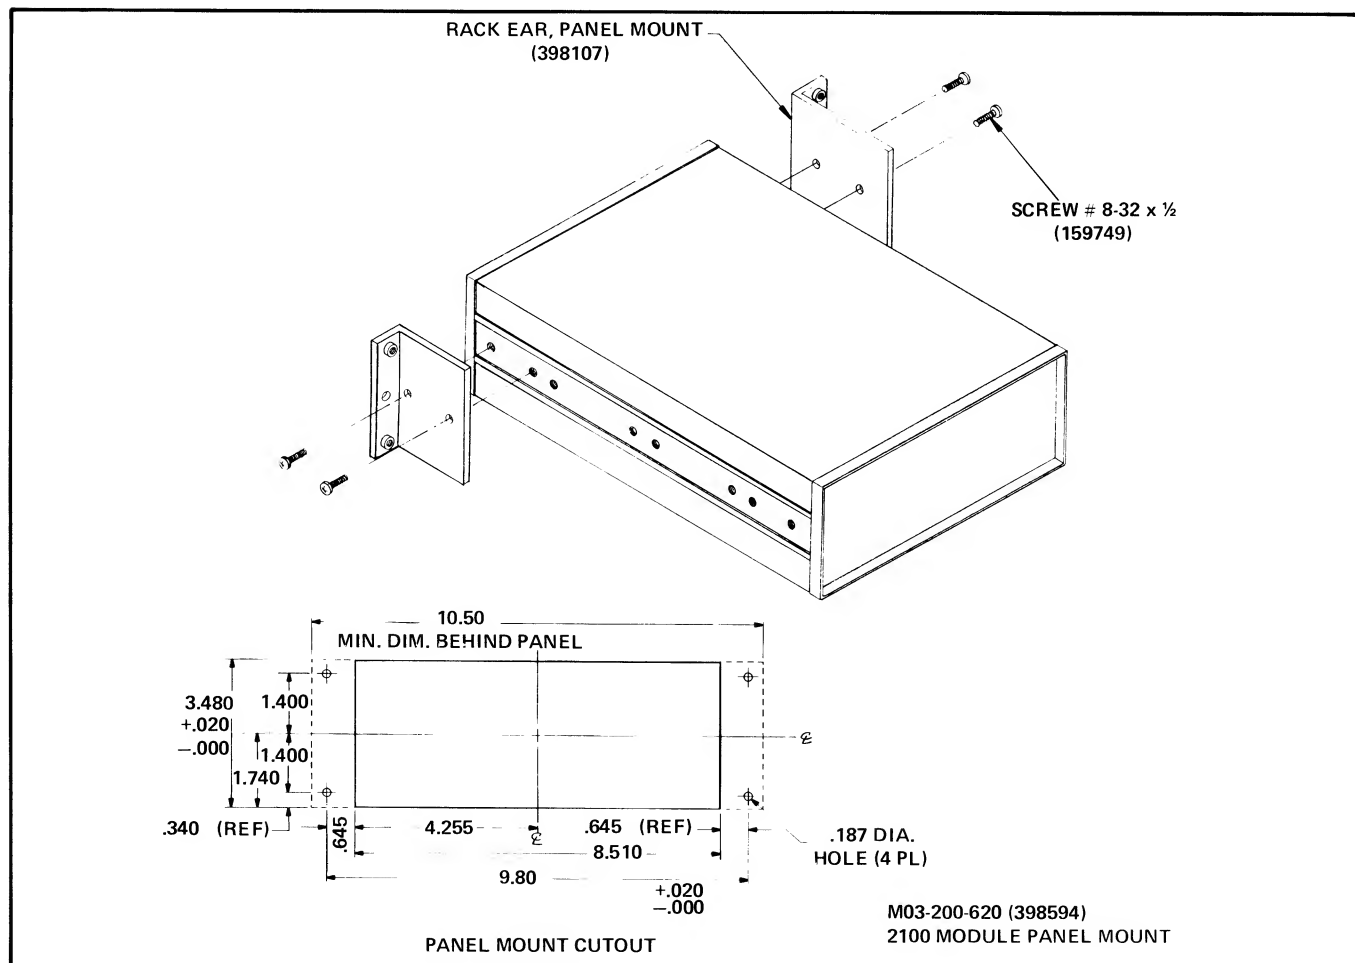

Figure 6-4. PANEL MOUNTING
- 6-15. Prepare the cutout in the panel as indicated in Figure 6-4. Insure that the dimensions given for the cutout are followed precisely. Install the 2100A in the panel as follows:
- c. Position the panel mount rack ear against the side of the chassis as shown in Figure 6-4 and secure it in place with two screws. Repeat on the opposite side.